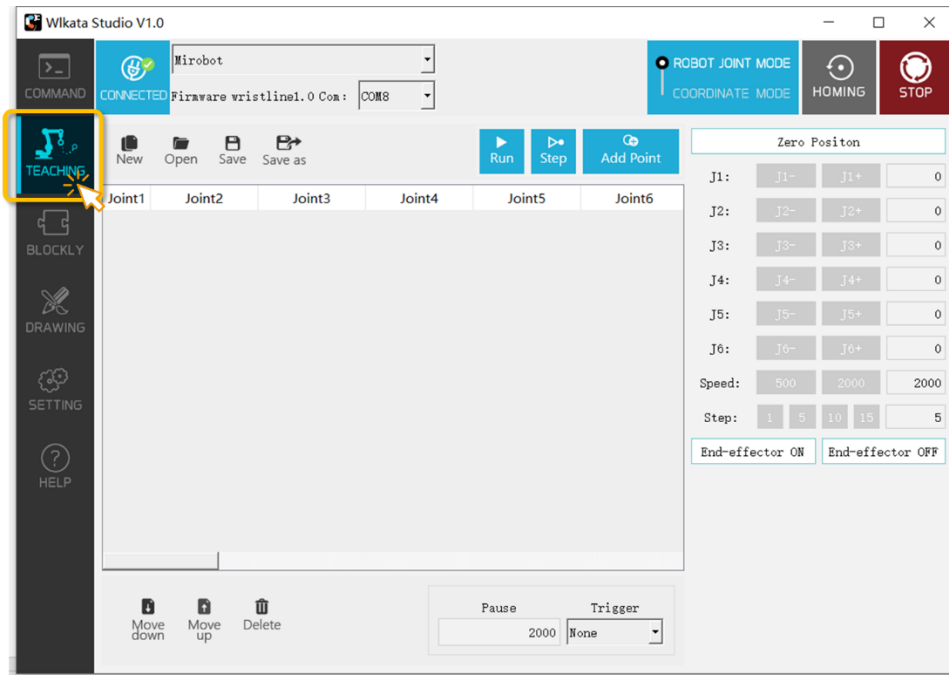

Figure 3.22 The TEACHING page in the WLKATA Studio software
(1) Click the TEACHING tab in the software to switch to the Teaching & Play page, as shown in Figure 3.22.